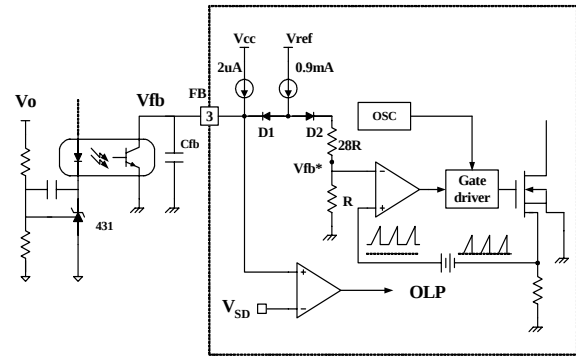

Figure 5. Pulse width modulation (PWM) circuit
2. Feedback Control : The FSDM0265RNB employs current mode control, shown in figure 5. An opto-coupler (such as the H11A817A) and shunt regulator (such as the KA431) are typically used to implement the feedback network. Comparing the feedback voltage with the voltage across the Rsense resistor plus an offset voltage makes it possible to control the switching duty cycle. When the reference pin voltage of the KA431 exceeds the internal reference voltage of 2.5V, the H11A817A LED current increases, thus pulling down the feedback voltage and reducing the duty cycle. This event typically happens when the input voltage is increased or the output load is decreased.